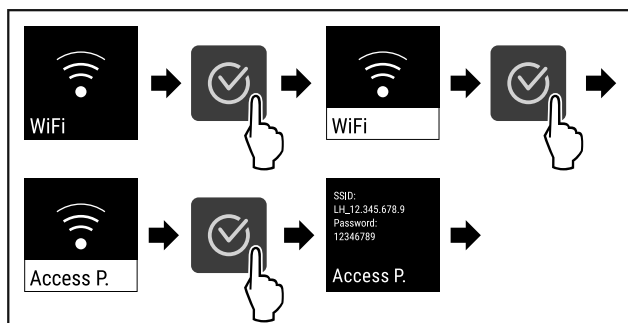

Fig. 75
- Complete the steps (see Fig. 75).